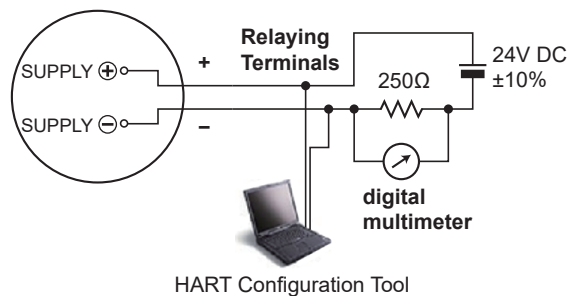

Figure 7.1 Connection Method
1. Connect the instruments as shown in Figure 7.1, and warm up for three minutes more.
4. When the load resistance is 250Ω, the digital multimeter indicates 5V. When a known load resistance (RΩ) is used, make sure that R(Ω) x 0.02 (A). Check that the output value is in the rated value (±0.016 mA).